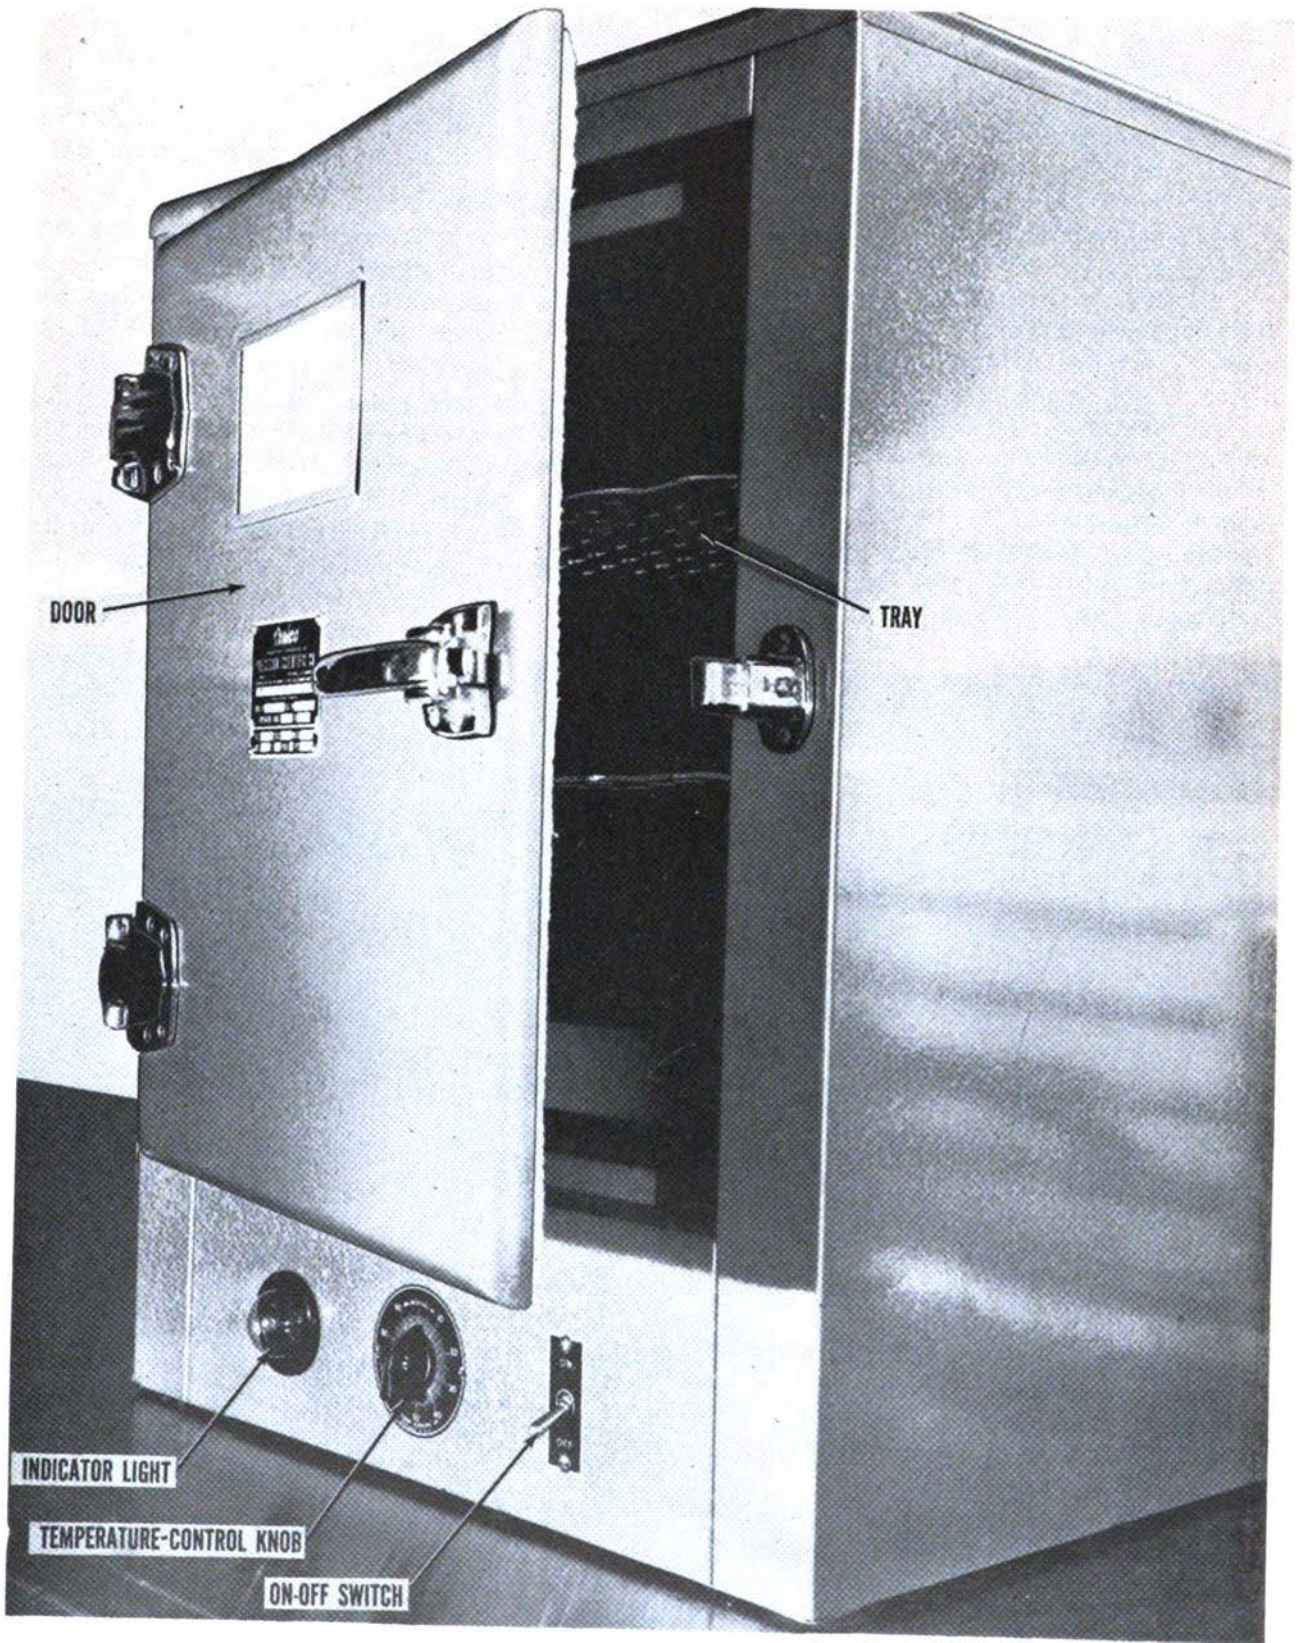

Figure 47. Oven.
- (1) Place toggle switch in ON position.
- (2) Set percentage timer. The timer operates so that heat is on for a set percentage of 1 minute and off the remaining part. For example, with the timer set at 20, the heat is on 20 percent of 1 minute and off 80 percent; a setting at 60 controls temperature at approximately 1,800° F. For quick heat-up, set timer at 100 which provides continuous heating, but make sure to turn back timer when pyrometer shows temperature reading at 1,800° to prevent burning out of heaters, refractories, etc., caused by excessive temperatures.
a. Description. The utility oven (fig. 47) is located above drawer BD-1. Producing heat ranging from 35° to 180° C., it is used for baking, drying, conditioning, and preheating. The cabinet-type, gravity-convection oven is equipped with hydraulic, snap-action thermostat, two adjustable latticed metal shelves, hinged door with safety latch, adjustable ventilator, pilot lamp, ON-OFF toggle switch, and a thermometer ranging from 0° to 200° C. Circuit breaker switch 10 controls current to the oven.